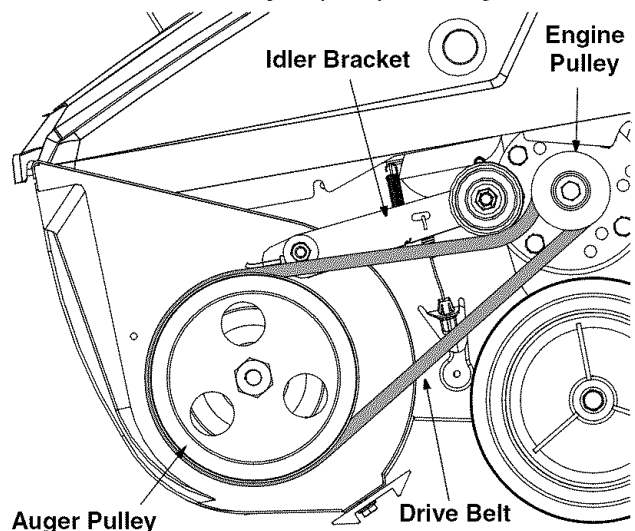

Figure 5
- Gently grasp the idler bracket and pivot it upward to ease tension on the drive belt. See Figure 5.
- While holding the idler bracket up, carefully slip the drive belt off the engine pulley. See Figure 5.
- Carefully slip the drive belt off the auger pulley, freeing it from the snow thrower. See Figure 5.